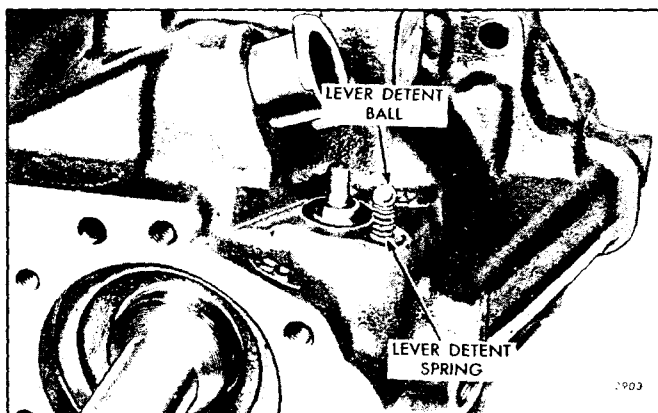

Fig. 89 - Location of Selector Valve Lever Detent Spring and Ball in Gear Housing
- e. Place the selector valve lever detent spring in the drilled hole in the gear housing just above the threaded end of the selector valve (Fig. 89).
- f. Place the 5/16" steel ball on top of the selector valve lever detent spring (Fig. 89).